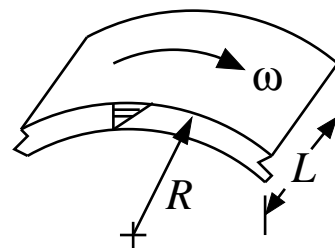

Figure 2: *Cylinders.*
5. (10 pts) The simple viscometer in Question 4 can be realized physically by filling the small gap between 2 concentric cylinders with the fluid, holding the inner cylinder fixed, and rotating the outer cylinder (partial cut-away shown in Fig. 2). If the outer cylinder surface is located at a radius of $R = 0.1 \text{ m}$ and the cylinders have a length of $L = 0.5 \text{ m}$, determine the resisting torque, T , that would be realized for the parameters in Question 4. Neglect any edge effects.